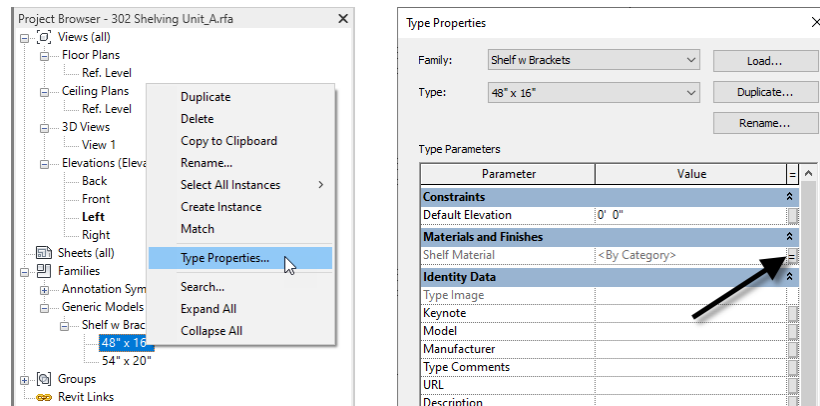

Figure 42
9. In the “Type Properties” dialog, click the small Associate Family Parameter button to the right of Shelf Material and repeat the steps above to create a new parameter in the host file. You can name it: **Shelf Material** again (See Figure 42).